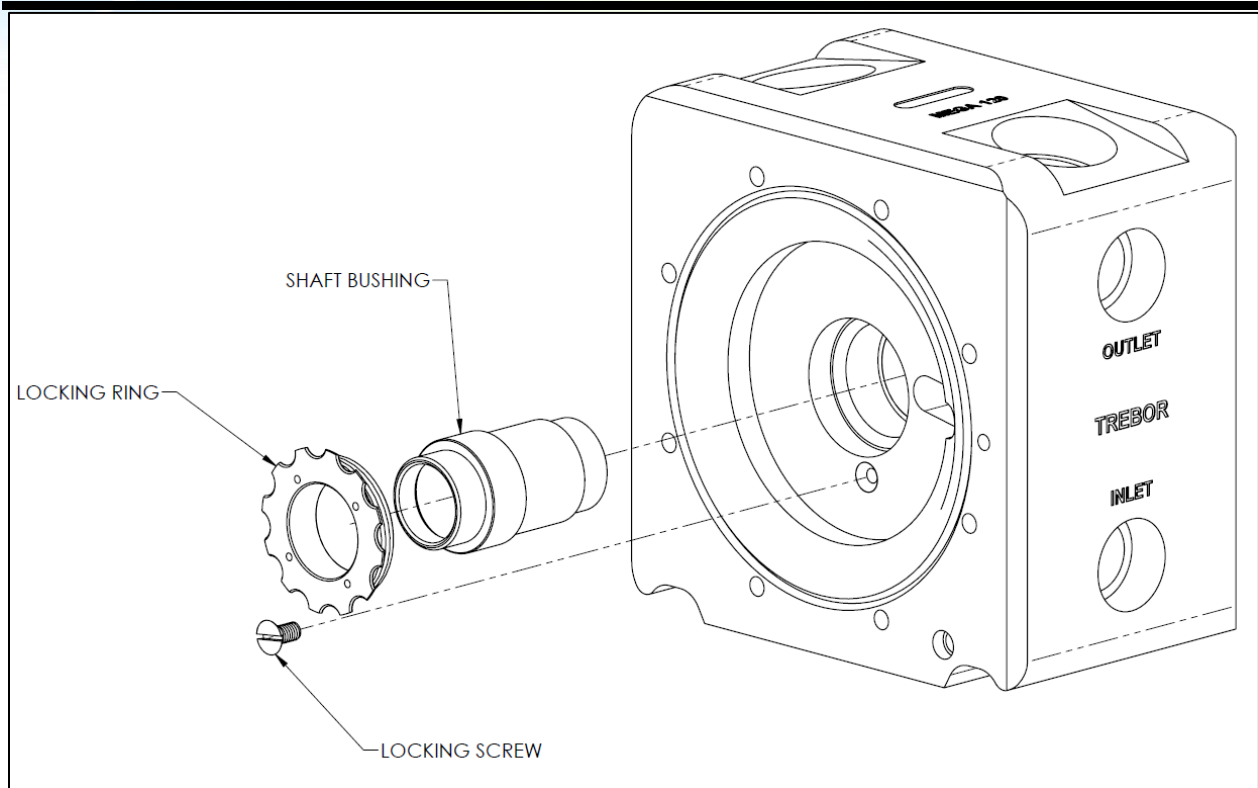

Figure 4-5
- Install shaft bushing per Figure 4-5.